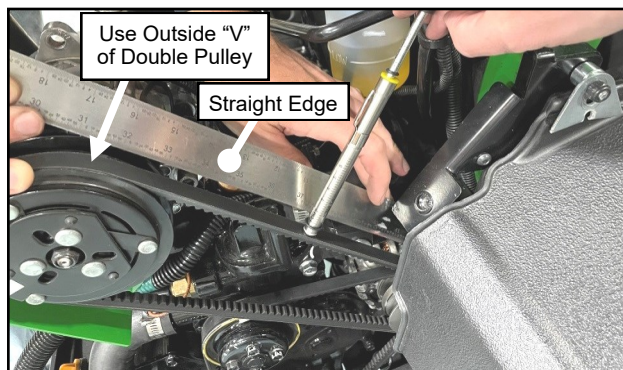

Fig. 2.12 (Install V-Belt)
2.12 Install V-Belt onto the outer "V" groove of the double pulley found on the Compressor and install the other end onto the double pulley found on the alternator. See Figure 2.12.
2.13 Tension belt by placing a straight edge tangent to compressor pulley and alternator. Place belt tension tester in the center and perpendicular to the belt between the (2) pulleys and next to the straight edge. Push the tensioner towards the theoretical center making sure that a deflection force of 3.1 lbs. gets .2 inches of belt deflection at the center of the belt. See Figures 2.12 and 2.13.